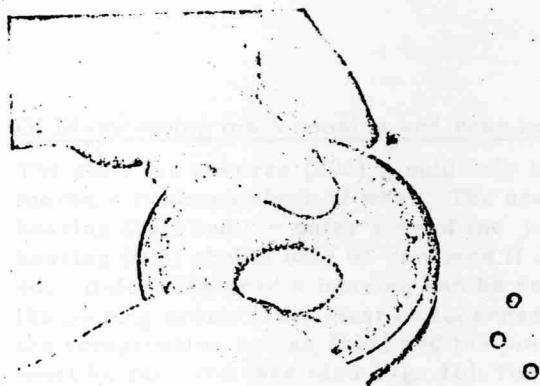

Fig. 10
Press the sliding sleeve for the reverse gear (418) or the sliding sleeves (213 and 225) out of the respective synchronizers (Fig. 10). In order to prevent the 3 balls (210, 414) and the 3 springs (211, 415) from falling out, it would be advisable to cover the synchronizers with a piece of cloth before removing the sliding sleeves.